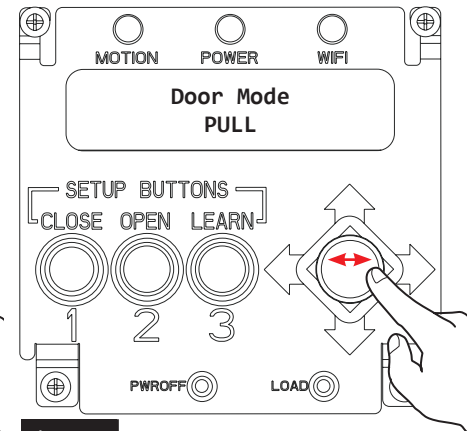

Figure 5
2. Move the joystick to the RIGHT or LEFT and select PUSH or PULL to set the arm type, depending on the application. (Figure 5)